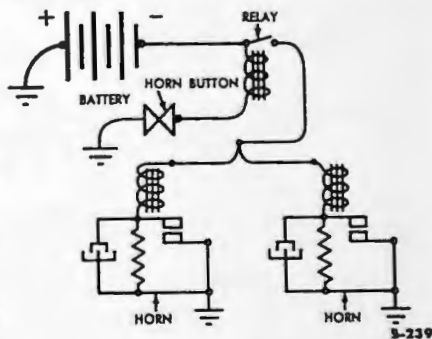

Fig. 1—Horn Circuit
(2) **HORN DOES NOT SOUND.** If the horn does not sound when all of the wires are connected, press the horn button. If the horn still does not sound, disconnect the main feed wire at the horn relay (fig. 1) and ground it momentarily and follow (a) or (b) below, whichever applies.